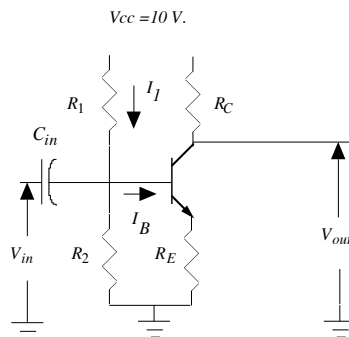

Fig. 1 Voltage Source Biasing
4.1 Design a transistor amplifier using the circuit shown in the Fig. 1 below. Determine values of the resistors, R_C , R_E , R_1 , and R_2 to satisfy the following constraints: